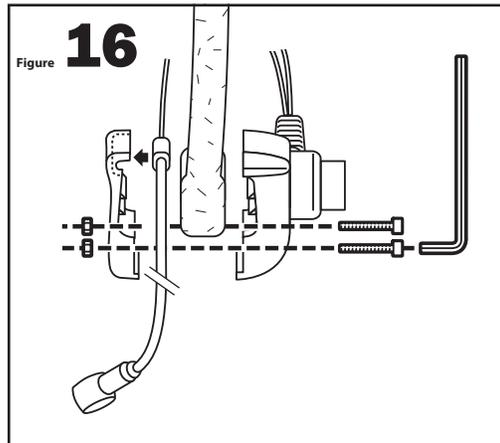

Figure 16
2. Position the boom microphone clamp on the left side of the helmet so that the microphone lines up with the wearer’s mouth. **See Figure 15.** Tighten the clamp with the rubber friction spacer in place. **See Figure 16.**